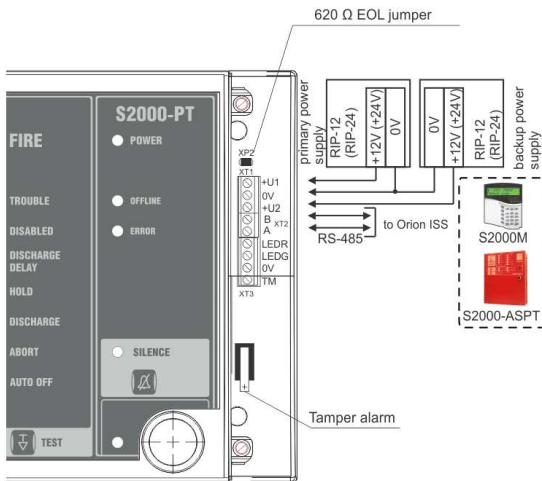

Figure 2. S2000-PT Connection Diagram
2.2.1 Connect wires to the terminals as shown in Figure 2.
2.2.5 Unless the module is the last or the first device in the RS-485 interface bus, remove the EOL jumper from the module’s PCB (see Figure 2).